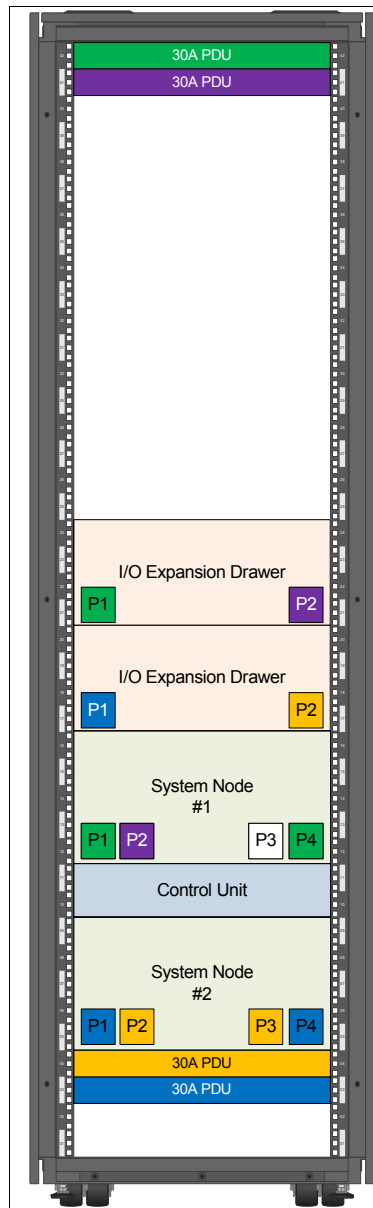

Figure 1-13 Two system node configuration and two I/O expansion drawers supplied by 30A PDUs
- For PDU #7109 and #7188 when 24 Amp power cord #6654, #6655, #6656, #6657, or #6658 is used, each pair of PDUs can power one Power E870C or Power E880C system node and two I/O expansion drawers, or eight I/O expansion drawers. The 24A PDU cables are used to supply 30A PDUs. The rack configuration with two pairs of 30A PDUs supplying a two system node configuration and two I/O expansion drawers is shown in Figure 1-13.